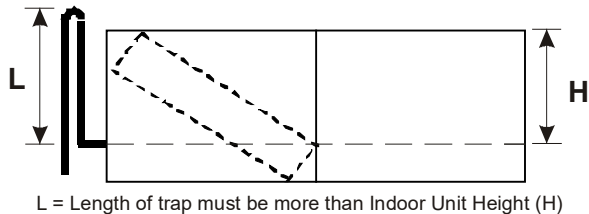

Figure 4-1. Indoor Unit with Inverted Suction
3. An inverted suction line trap must be installed on the suction line just before the inlet to the indoor unit (see Figure 4-1). The top of the inverted loop must be slightly above the top of the indoor unit coil and can be created simply by brazing two 90° long radius elbows together if a bending tool is unavailable. Properly support and secure the inverted loop to the nearest point on the indoor unit or adjacent structure.